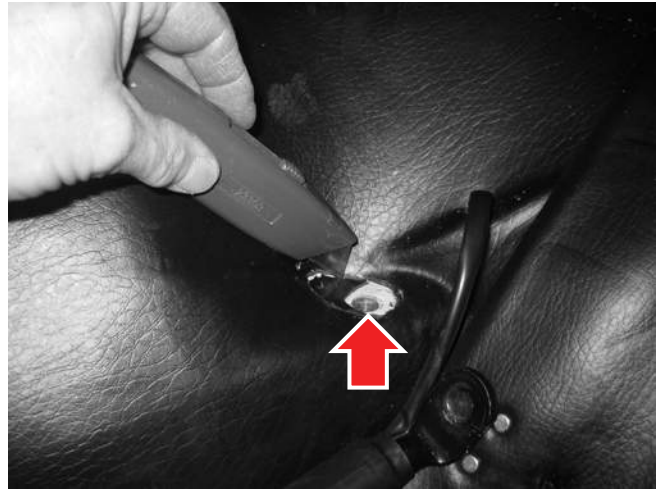

Figure 14-2
2. Cut out the mat so that no part of the mat is between the seat belt buckle mounting bracket and the sheet metal floor (see *Figure 14-2*).